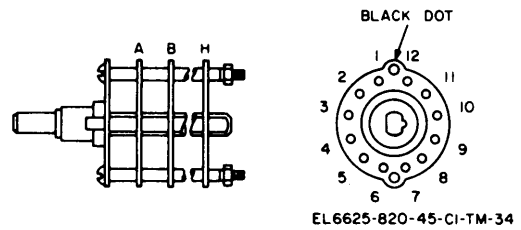

Figure 3-3. TS-2500A/ARM-92 switch S3 wafer and pin designation.
- p. Disconnect the wire to the wiper connection of wafer H of switch S3 (fig. 3-3).